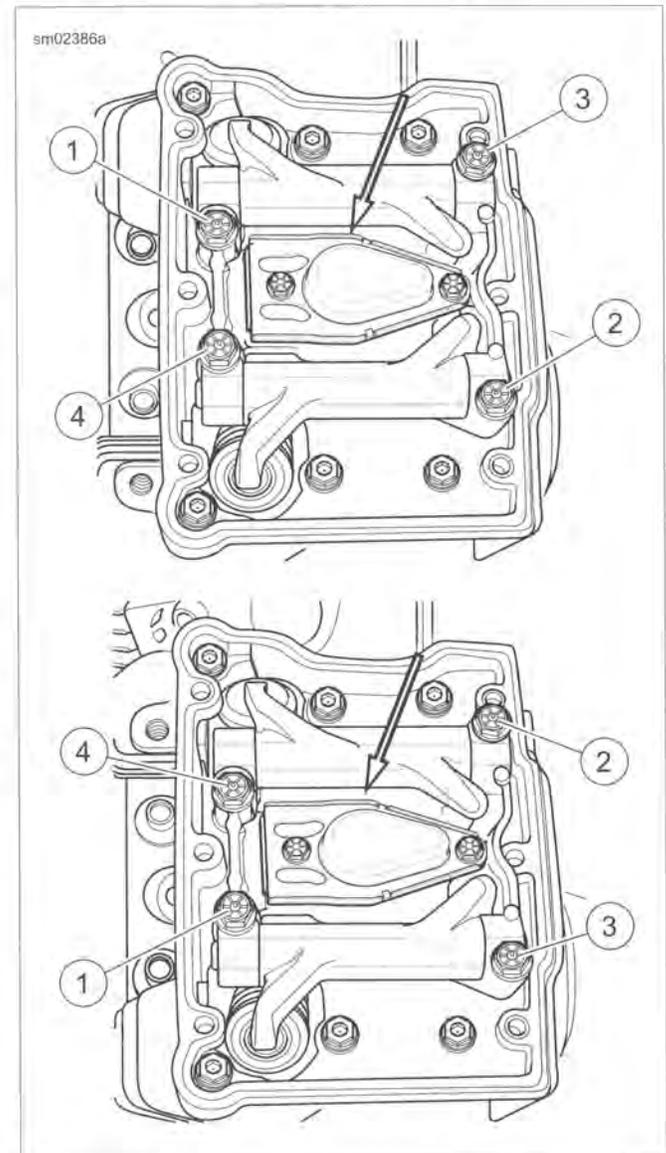

Figure 3-17. Rocker Arm Support Screw Sequence
5. See Figure 3-17. Remove breather assembly (arrow) and filter element from the rocker arm support plate. For